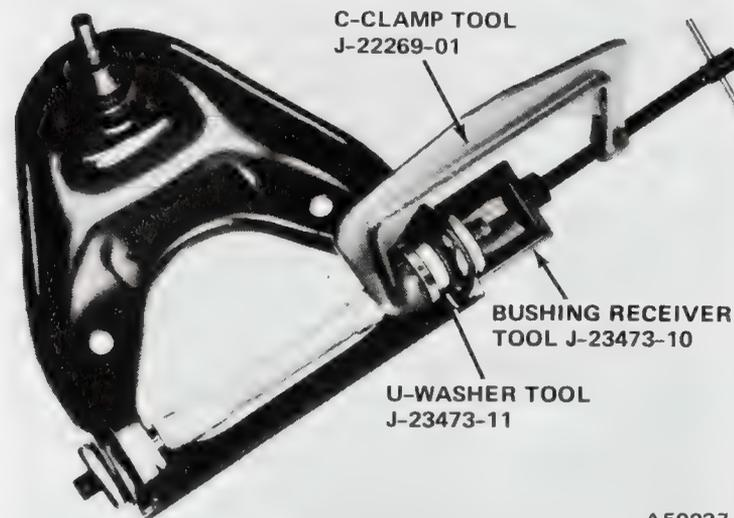

Fig. 2M-37 Upper Control Arm Bushing Removal
(2) Place U-Washer Tool J-23473-11 on upper control arm cross-shaft (fig. 2M-36).